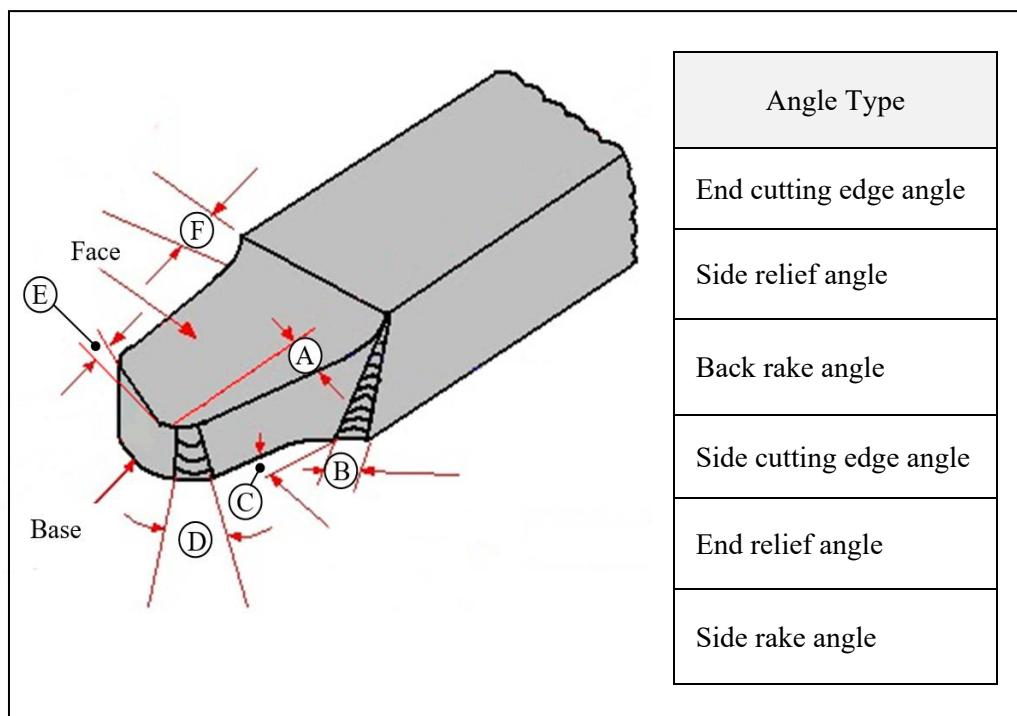

Figure 2b / Rajah 2b
- (b) Based on **Figure 2b**, match **SIX (6)** main angle A,B,C,D,E and F of a cutting tool.